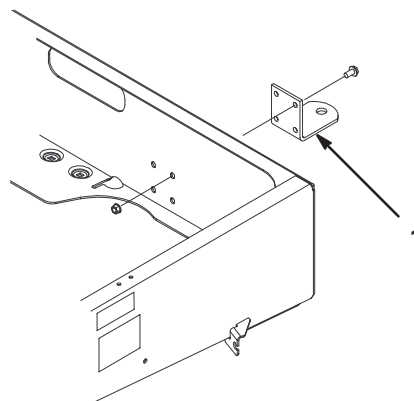

Figure 7
2. Align the hitch with the mounting holes on the frame. Secure the hitch with the screws and nuts (Fig. 7).